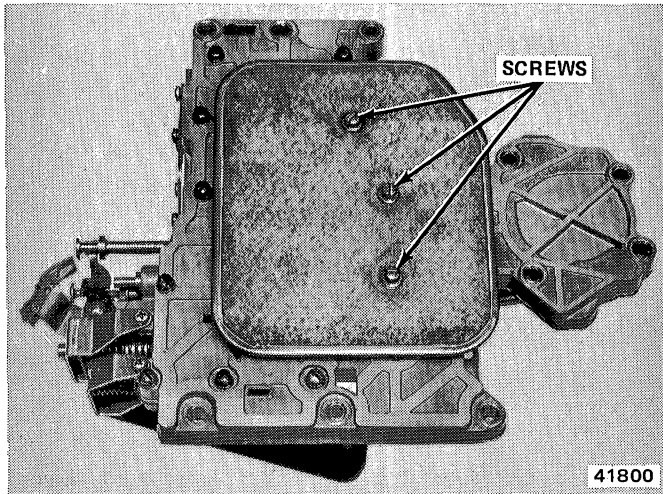

Fig. 2C-41 Oil Filter Removal
(8) Remove upper and lower screws from spring retainer and adjustment screw bracket (fig. 2C-43). Hold spring retainer firmly against spring force while removing last screw.
(9) Remove spring retainer, line and throttle pressure adjusting screws. Do not disturb screw settings. Remove line pressure and torque converter valve regulator springs. Tag springs for assembly reference.